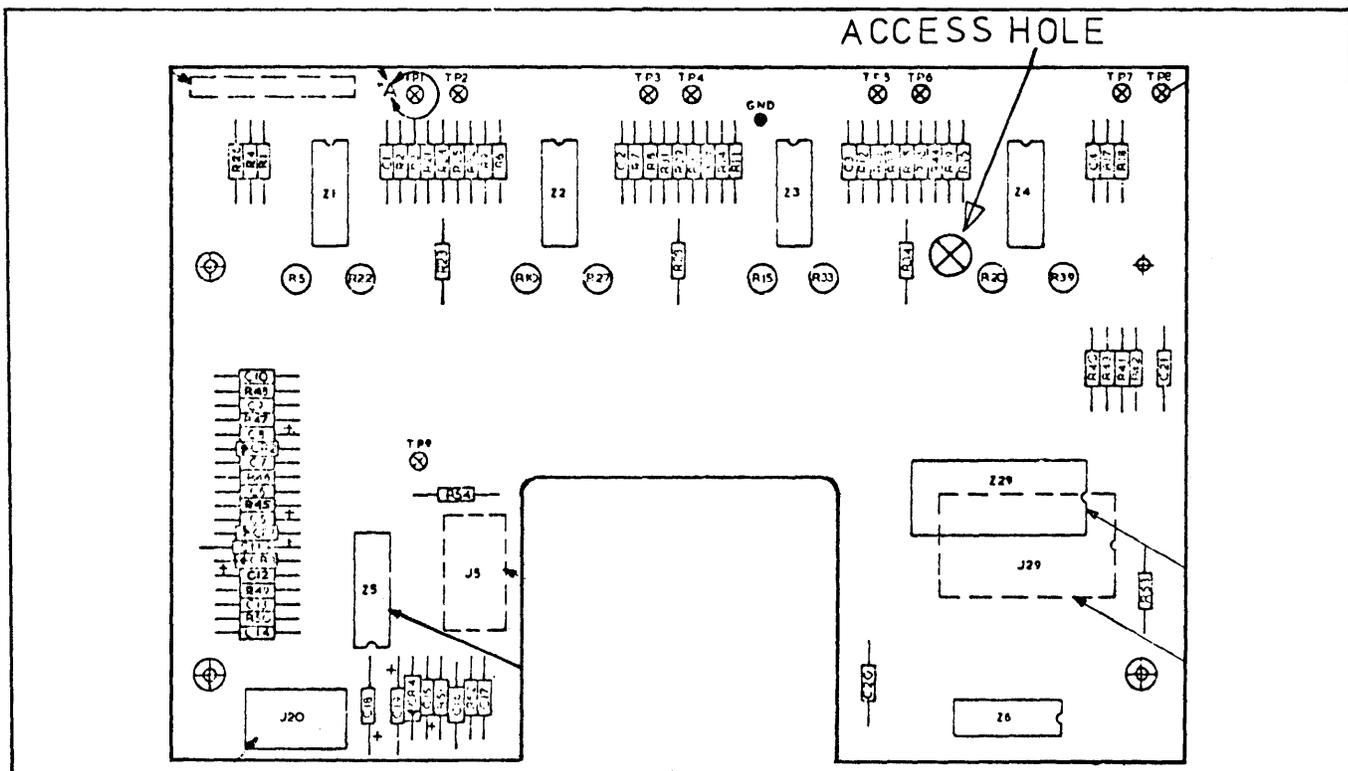

Figure 4-20. Location of Access Hole for R133 (SCM-2 board)
2. Remove the SCM-2 board and drill a 1/4" diameter hole at the point shown in figure 4-20, exactly above R133 on SCM-1 board. Take great care not to damage any components, and ensure that the hole only passes through the ground plane etching.